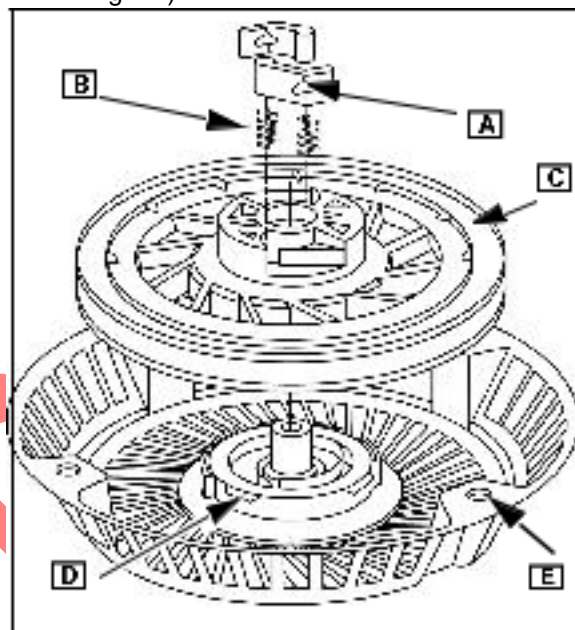

Fig. 12
Lift out pulley. The starter spring cup (D) will normally remain in starter housing (E) Fig. 12).